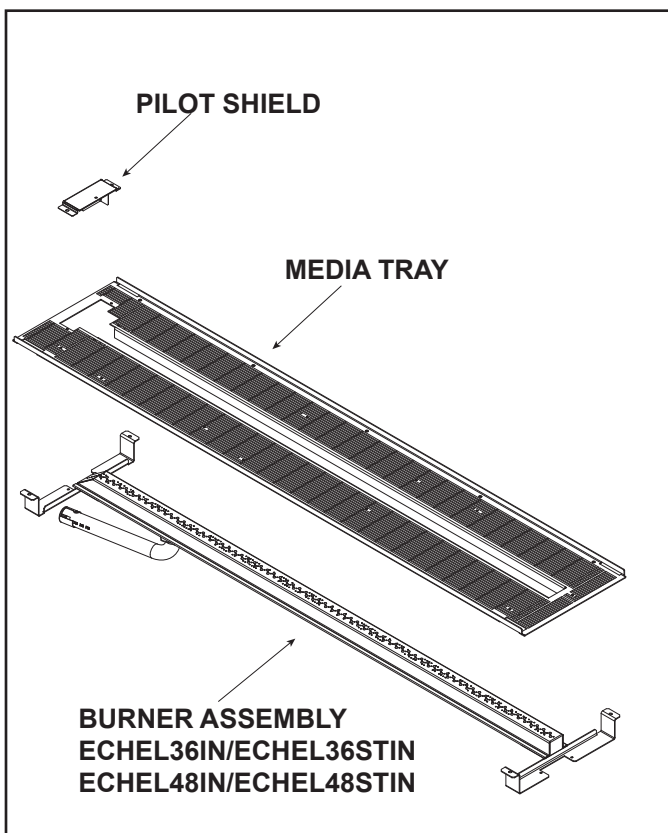

Figure 9.3. Media Tray with Burner and Pilot Shield (ECH36IN/ECH36STIN/ECH46IN/ECH48STIN)
- Remove the four screws securing the burner to the firebox sides and disengage burner from orifice. Remove burner. See Figure 9.3.